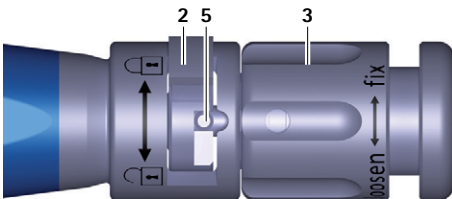
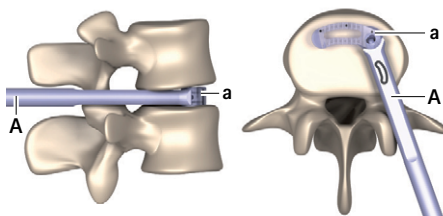

Fig. 3 Close-up view of the insertion instrument, switch closed
Fig. 11 Implant in end position
- Turn the switch 2 to the right (↻ direction), see Fig. 3.
- Turn the rotary nut **3** counterclockwise ("loosen" direction), until the pin **5** is fully in the switch **2**, see Fig. 3. When doing so, ensure that the pin **5** does not jam the switch **2**.
- Turn the switch **2** to the right (↷ direction), see Fig. 3.
- As soon as the end position (see Fig. 11) is reached: Turn the rotary nut **3** counterclockwise ("loosen" direction), until the pin **5** is fully in the switch **2**, see Fig. 3. When doing so, ensure that the pin **5** does not jam the switch **2**.
- ▶ Turn the switch **2** to the right (↻ direction), see Fig. 3.